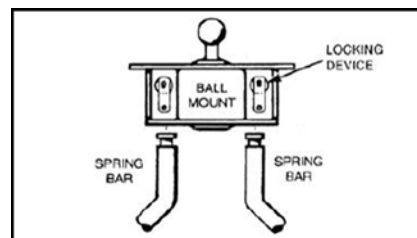
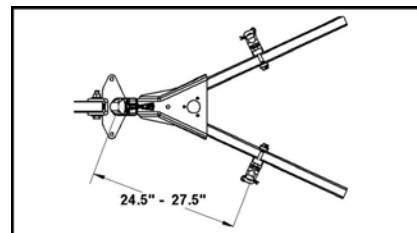

Figure 4: WD spring bars attached to head through socket and secures with clip.
Figure 5: L brackets can be installed between 24-1/2" to 27-1/2".
- To remove Spring Bars, just swing bar around under the bumper and it will drop free (see Figure 4).
- Position inner ⑭ and outer frame brackets ⑮ 27.5" from the center of trailer coupler with bolt ⑫ through the top bolts as shown. Snug nut ⑬ to the back of the inner frame bracket ⑭. Insert lower bolt ⑫ with serrated washer ⑯ through inner frame bracket ⑭ as close to the underside of the trailer frame as possible, and snug bolt. Torque both bolts to 130 ft lbs. Note that brackets can be positioned up to 3" towards truck from nominal to clear objects on frame, but this may interfere with mounting for a friction sway bar.
- Orient L bracket ⑪ so that the bottom portion of the bracket is ~3" above the unloaded spring bar. Secure the L bracket ⑪ to outer frame bracket ⑮ using 2 bolts ⑰ and lock washers ⑱. Bolts should be spaced with either 1 or 2 open holes between them (do not put both bolts next directly next to each other). Be mindful to not use the threaded hole that bolt ⑫ has used. Torque bolts ⑰ to 80 ft lbs.
•Installing and removing spring bars onto L brackets: extend trailer jack until spring bar ends are above the L brackets. Adding a 6" x 6" block or support under the jack will make extension and raising the trailer faster and protect the jack from being extended to max travel. The higher you raise the trailer the easier to install or remove spring bars from L brackets. Swing spring bars on to L brackets as close to trailer frame as possible. Secure the spring bars by dropping in covers ⑱. Then secure the covers ⑱ using the pins ⑲ (see Figures 5 & 6).